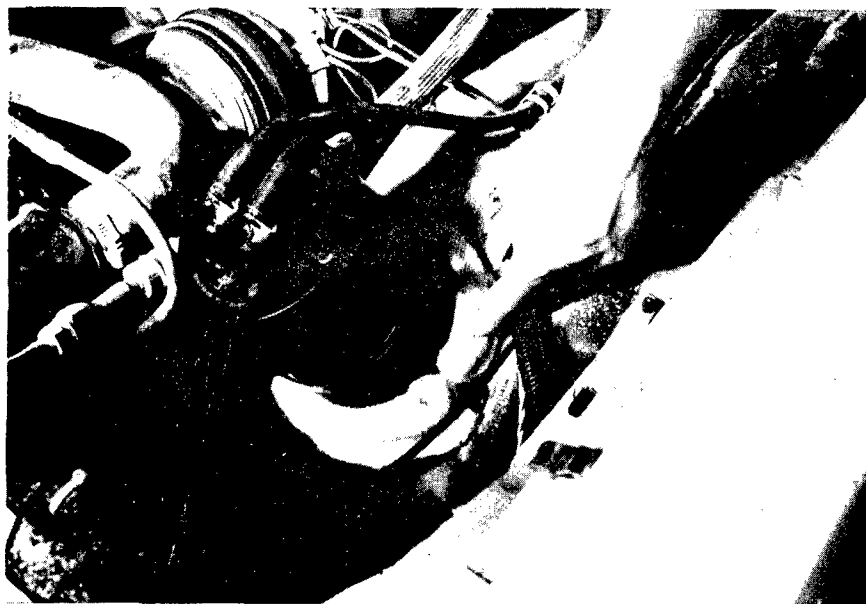
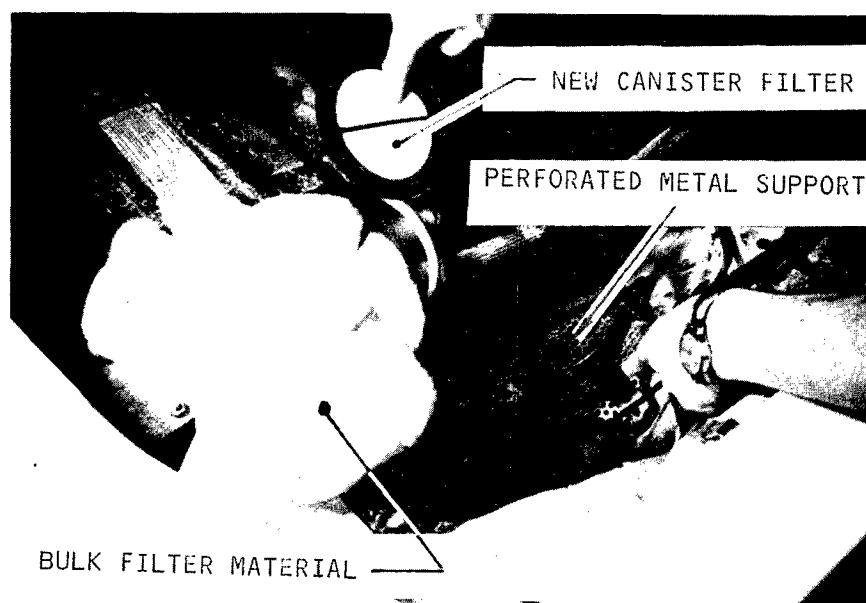
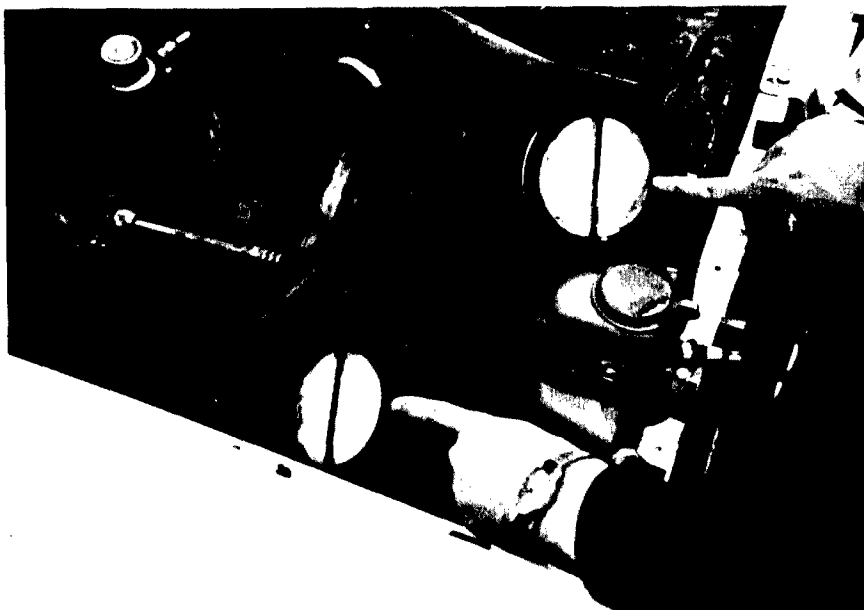
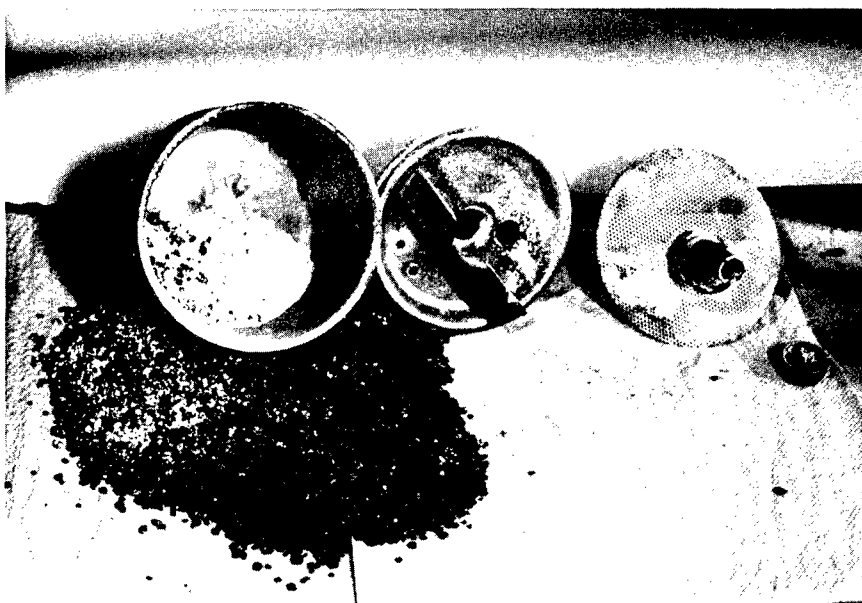

Figure 9
Figure 10
Figure 11
Figure 13
(5) Fuel System Charcoal Filter/Vent: For systems with replaceable filter pads in the base of the canister, additional protection is provided by placing two or three layers of Lydall primary filter media (Reference Appendix No. 4) at its support base. Set the charcoal filter canister on the Lydall material and secure the canister in its mount, Fig 9. For some applications it may be necessary or desirable to minimize air flow restriction by installing a screen or perforated metal support under the canister mount to hold the filter material off of the fender, Fig 10. The Lydall material should be cleaned periodically by shaking or washing. Replace the standard canister filter pad when dirty. (NOTE: Some vehicles have two charcoal filters, Fig 11) For top vented canisters (Ford), stuff a wad of Filtrete material into the center post and secure a pad of Lydall material over the inlet, Fig 12. Tape the Lydall material to the canister. Check sealed units for excessive initial plugging by comparing air flow restriction on a new unit to the same air flow on the test unit. Low pressure (5 PSI) shop air applied to the inlet is acceptable. Adapt pressure gage to canister inlet or note sound of air flow. If unit is old or suspected of heavy ash ingestion, replace with a new unit, Fig 13.